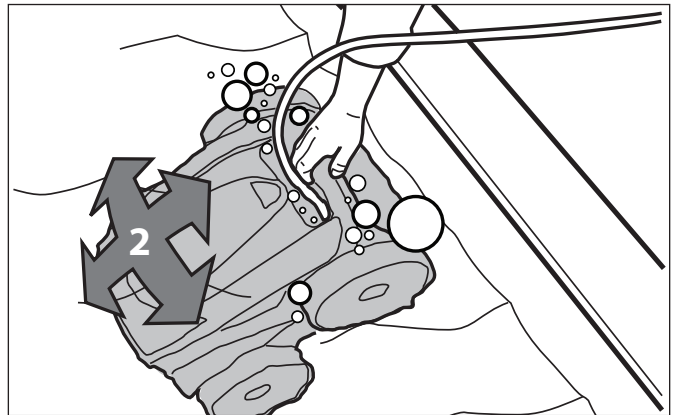

Figure 17. Cleaner on the Bottom of the Pool
2. Ensure the unit sinks to the bottom of the pool. Refer to Figure 17.